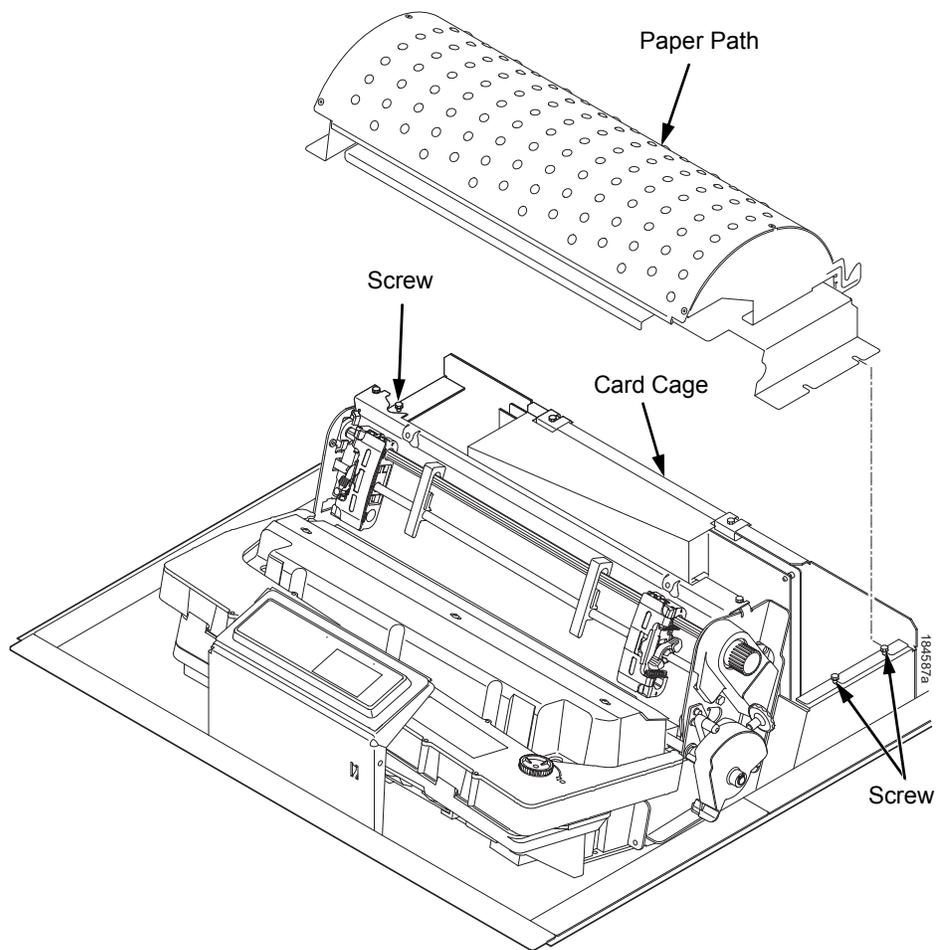

Figure 14. Remove the Paper Path
4. Loosen—do not remove—the three paper path hold-down screws. Slide the paper path to the left and lift it off the card cage. (Figure 14.)